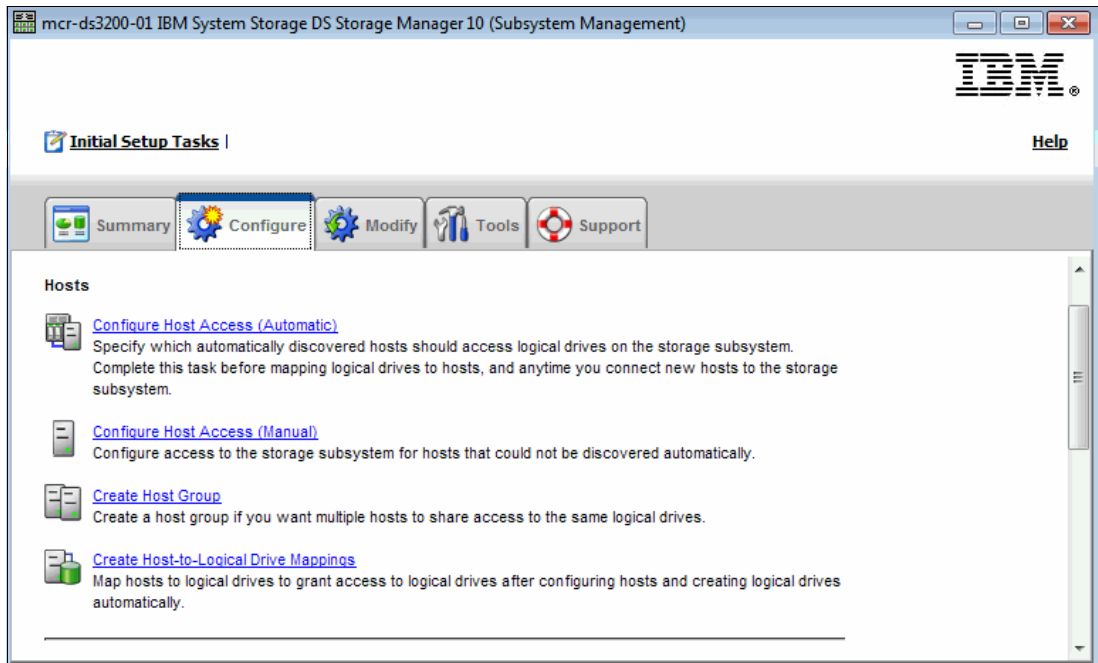

Figure 6-30 Creating hosts: Storage Manager GUI
3. Each canister of the IBM Storwize V3700 needs to be defined on the System Storage DS3200 as a host, and then added to a host group. Click the **Configure** tab and select **Configure Host Access (Manual)**, as shown in Figure 6-30.